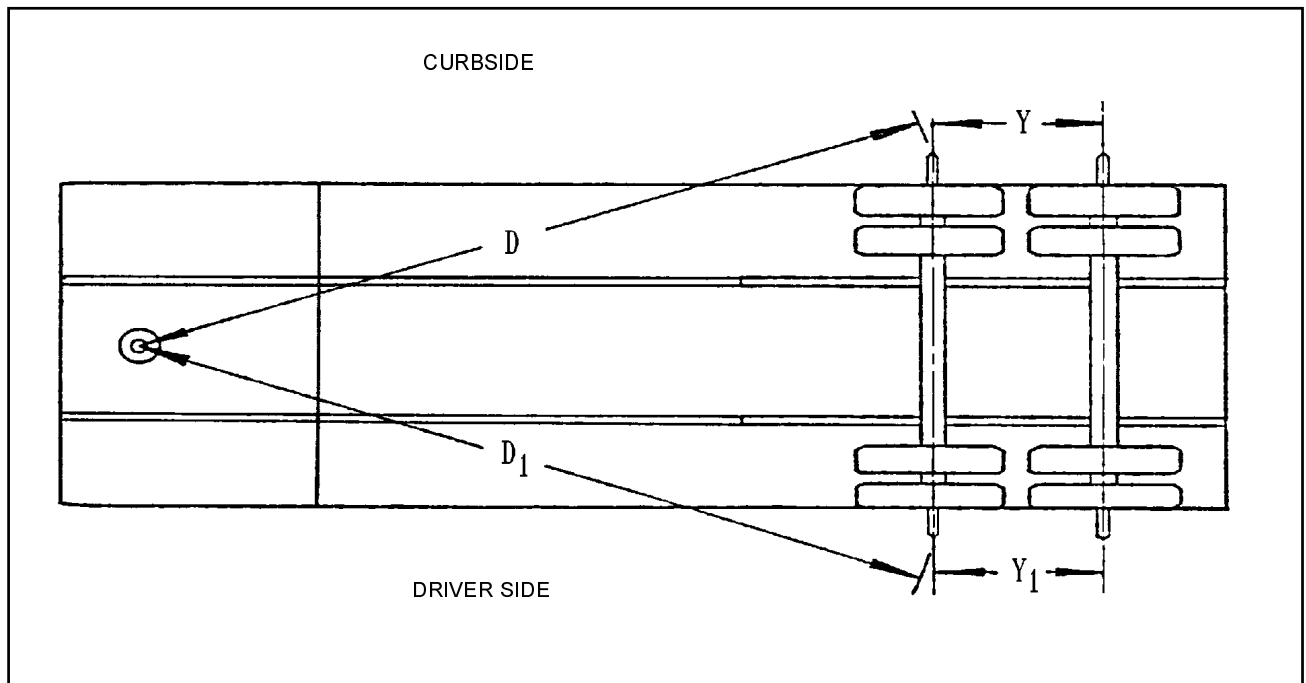

Figure 4-9 Checking Axle Alignment
4. Measure (D) from the plumb bob to the center point on one end of the axle. Record this measurement (See Figure 4-9).
the same manner as in **Step 4**. Record this measurement (See Figure 4-9).